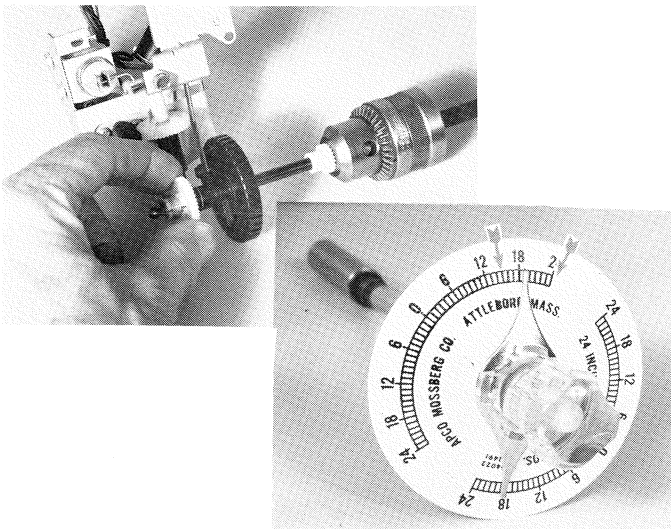

Figure 10. Measuring Focus Gear Clutch Torque
3. Grasp the Focus Gear (Figure 10) and turn the Torque Wrench until the Focus Gear Clutch starts to slip. The Torque Wrench should read 15 - 20 inch/ounces. (This reading must be obtained when turning the torque wrench both clockwise and counterclockwise.)